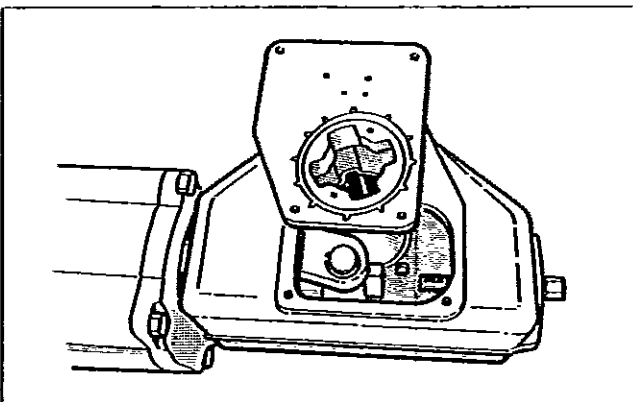

Fig. 14. Mounting the cover on the housing
- Apply bearing unit screw (29) thread with a sealant, e.g. Loctite 225, and tighten the screw as in table 1.
- Fasten the housing cover temporarily so that the secondary shaft bearings function but the linkage can still be seen, see Fig. 14.